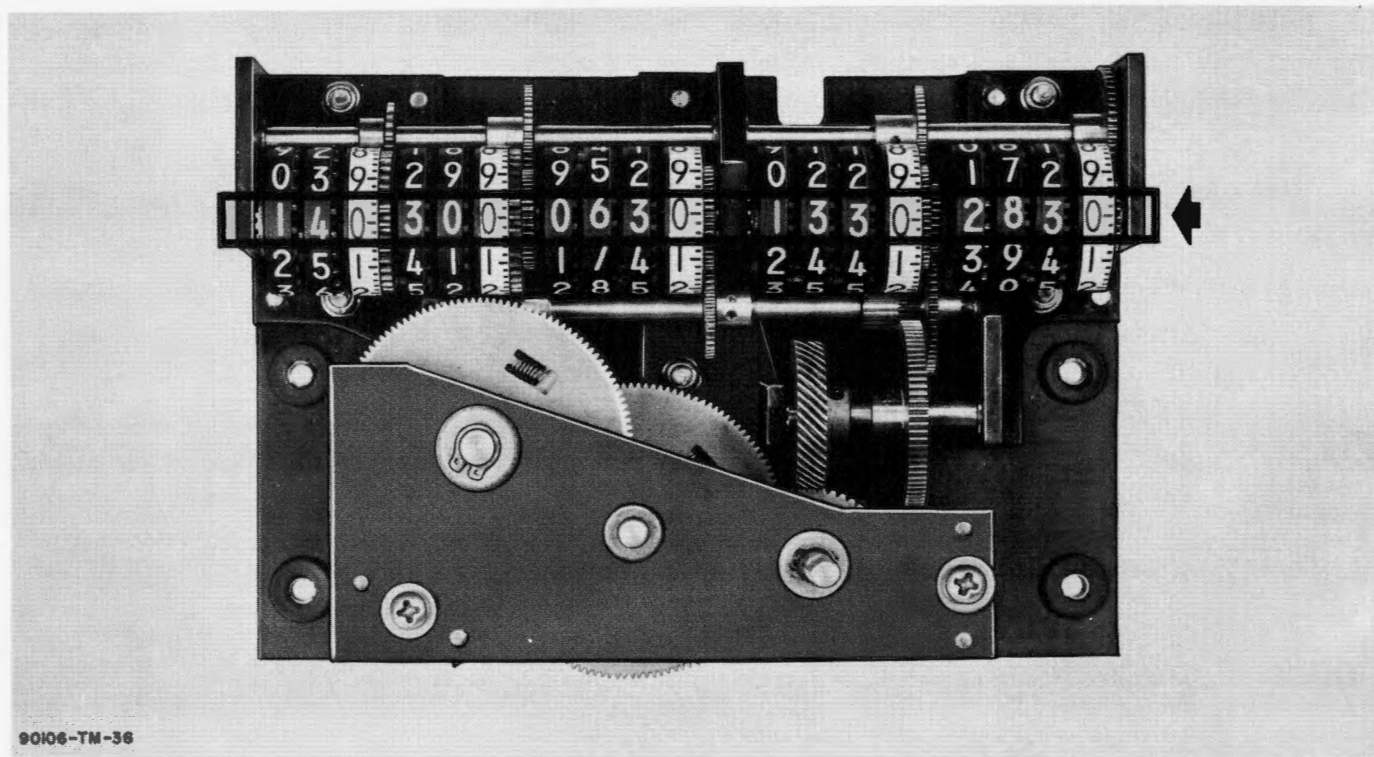

Figure 6-8. Tuning Drive Subassembly, Control Dial Alignment
(12) Install spring (44), spacer (43) and finger stop (42) using screw (40) and washer (41).
(13) Loosen screws (69). Turn lower gear assembly away from high speed gear section and secure screws (69).
(14) Select the control dials (27, 29) and the dial and gear assembly No. 1 (30). Stack the three dials and measure their combined height. Add a sufficient quantity of spacers (9) to increase the combined height to 0.870 (\pm 0.005 in.).
(15) Repeat step (14) using the control dials (31, 32) and the dial and gear assembly No. 2 (33) measuring for a combined height of 0.945 (\pm 0.005).
(16) Repeat step (14) using the control dials (34, 35, 36) and the dial and gear assembly No. 3 (37), measuring for a combined height of 1.120 (\pm 0.005) in.
(17) Install two of bearings (20) in bracket (10) and place one of spacer (28) on shaft (38). Install shaft (38) in bracket (10).
(18) Install shaft (78) using setscrew (77) and place a small amount of special lubricant on shafts (78, 38).
(19) Slide dial and gear assembly No. 3 (37) in position as in figure 6-8 and place approximately one-fourth of the spacers (9), acquired in step (14), on shaft (38).
(20) Slide one of gear indexes (19) on shaft (78) with the short teeth away from bracket (10) and position indexing gear so that short tooth slides under smooth black ring of dial and gear assembly No. 3 (37).
(21) Place a small amount of special lubricant on shaft (38) and position control dial (36) on shaft (38) as shown in figure 6-8. Mesh control dial (36) with gear index.
(22) Place approximately one-fourth of the spacers (9), acquired in step (14), on shaft (38) and place a small amount of lubricant on shaft (78). Slide one of gear indexes (19) into position on shaft (78) so that short tooth is against smooth ring of control dial (36).
(23) Repeat step (21) through (22) using control dial (35).
(24) Repeat step (20) using control dial (34) and place the remainder of the spacers (9), required in
Before proceeding make certain that the control dials are aligned as in figure 6-8.
(27) Place gear and shaft assembly (26) into position in bracket (10).
(28) Place spacer (28) on shaft (38). Install bearing (20) in bracket (25) and, while supporting shafts (26, 38), carefully slide bracket (25) into position. Secure bracket (25) using screws (23) and washers (24).
(29) Repeat step (14) using the control dials (16, 17, 18) and the dial and gear assembly No. 4 (15), measuring for a combined height of 1.200 (\pm 0.005) in.
(30) Repeat step (14) using the control dials (11, 12, 13) and the dial and gear assembly No. 5 (8), measuring for a combined height of 1.120 (\pm 0.005) in.
(31) Place spacer (28) on shaft (14) and install shaft (14) into position in bracket (10).
(32) Place a small amount of special lubricant on shaft (14) and slide control dial (18) in position as shown in figure 6-8. Place approximately one-third of the spacers (9), acquired in step (29), on shaft (14).
(33) Place a small amount of special lubricant on shaft (78). Slide one of indexing gears (19) on shaft (14) with the short teeth away from bracket (10) and engage teeth of control dial (18).
(34) With control dial (18) in position as in figure 6-8, the short tooth of indexing gear must face shaft (14). If it does not, disengage indexing gear, turn indexing gear one-eighth (one tooth) and re-engage.
(35) Repeat step (32) and (34) using control dial (17) and control dial (16).
(36) Place gear and shaft assembly (5) in bracket (10) and place gear and shaft assembly (6) in bracket (25).
(37) Place approximately one-fourth of the spacers (9), acquired in step (30), on shaft (14) and slide control dial (13) in position as shown in figure 6-8.
(38) Repeat steps (33) and (34) using control dial (13).
(39) Slide control dial (12) in position as shown in figure 6-8 and place approximately one-fourth of the spacers (9), acquired in step (30), on shaft (14).
(40) Repeat steps (33) and (34) using control dial (12).
(41) Slide control dial (12) in position as shown in figure 6-8 and place approximately one-fourth of the spacers (9), acquired in step (30), on shaft (14).
(42) Repeat steps (33) and (34) using control dial (12).